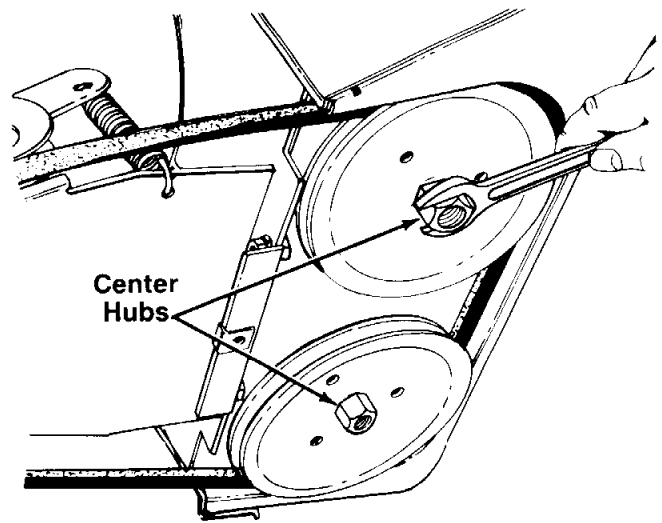

FIGURE 32B.
- b. **Models 31353 and 31383:** Place a block of wood between the housing and the augers to keep the auger pulleys from turning. Remove the pulleys by turning the center hub. See figure 32B.